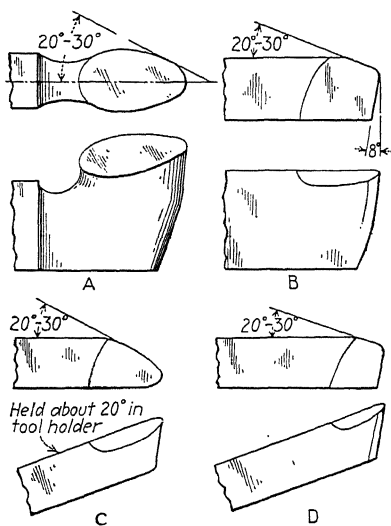

FIG. 46.—Contours of turning tools.
**59. Contour of Turning Tool.**—For generations past the “roughing tool” was forged and ground to have a top face substantially as shown in *A*, Fig. 46. That is, the top face was “egg shaped” with the cutting edge presented to the work at an angle of 20 to 30 deg. and the nose rounded in proportion to the size of the tool. Taylor proved that such a shape, with the round nose modified to meet conditions, will answer in most cases for roughing and finishing cuts in either steel or cast iron in the run of shop jobs in a 14- or 16-in. lathe, and for roughing cuts in the shaper, planer, and larger lathes.
In *B*, Fig. 46, is shown a shape of tool ground on a bar, which, as far as the cutting edge is concerned, is the same as the tool *A*. In *C* is shown a tool bit ground to resemble tool *A*, and in *D* the tool bit resembles the tool *B*. Practically, the four tools are alike in the shape of the cutting edges and in the cutting action.